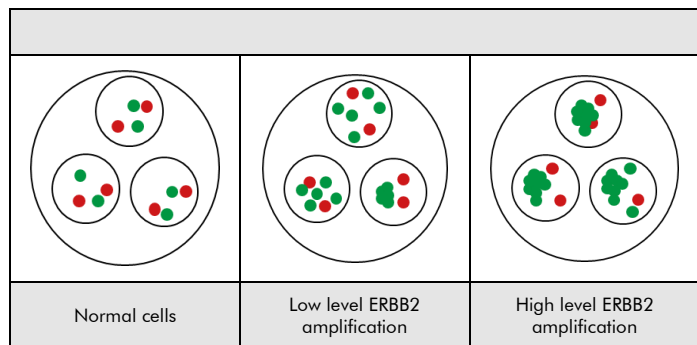

Fig. 2: Expected results in normal and aberrant nuclei
**Normal situation:** In interphases of normal cells or cells without an amplification involving the ERBB2 gene region, two distinct dot-shaped green and two distinct dot-shaped red signals appear (see Fig. 2).
**Aberrant situation:** In cells with an amplification of the ERBB2 gene region, an increased number of green signals or green signal clusters will be observed (see Fig. 2).